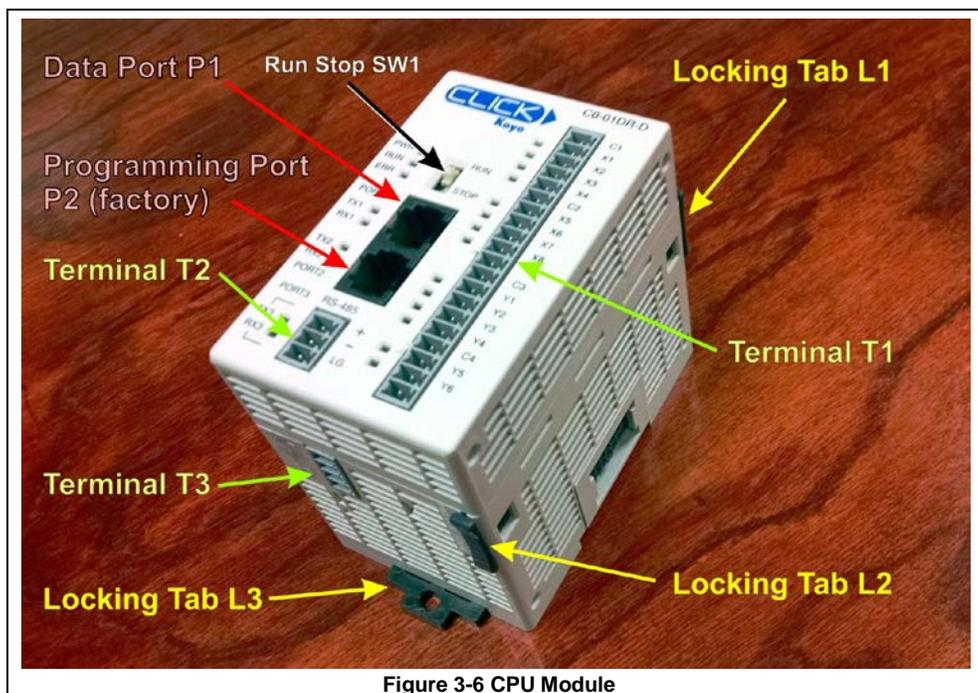

Figure 3-6 CPU Module
- b) Slide black locks L1 & L2 located on top and bottom of module toward front of module (UNLOCK) to release CPU module from adjacent modules (fig 3-6).